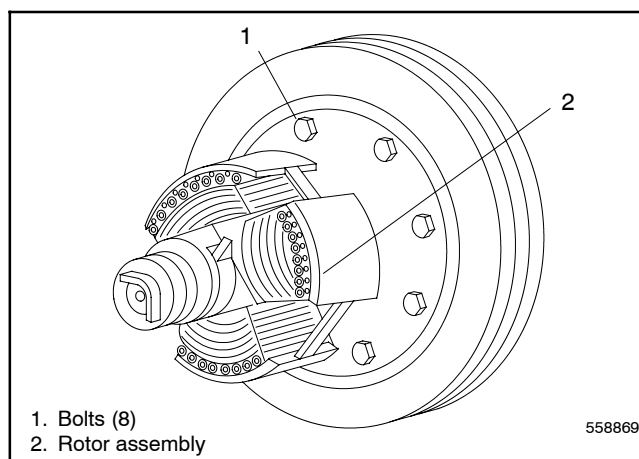

Figure 4-13 Disc/Rotor Assembly
18. Remove the eight bolts and remove the drive disc/rotor assembly from the engine flywheel. See Figure 4-13.